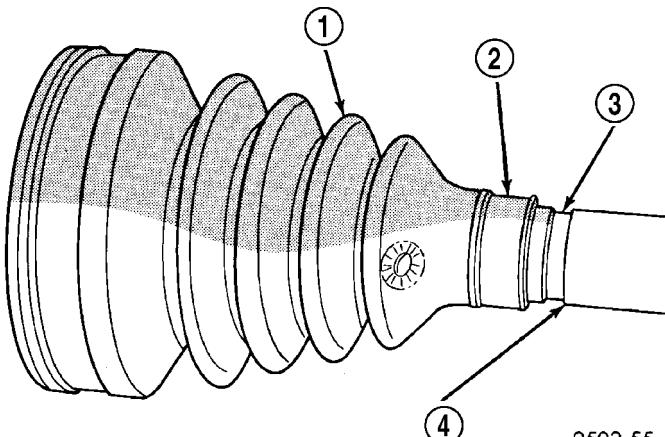

Fig. 32 Sealing Boot Installation on Interconnecting Shaft
(1) Slide inner tripod joint seal boot retaining clamp, onto interconnecting shaft. Then slide the replacement inner tripod joint sealing boot onto interconnecting shaft. **Inner tripod joint seal boot MUST be positioned on interconnecting shaft, so the raised bead on the inside of the seal boot is in groove on interconnecting shaft (Fig. 32).**